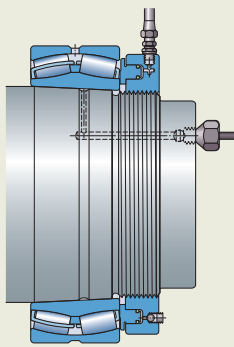
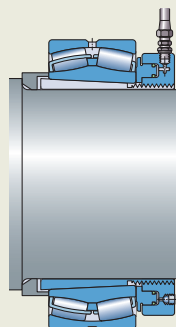

Fig. 33
Fig. 34
- on an adapter sleeve (fig. 33)
- on a withdrawal sleeve (fig. 34)
The hydraulic nut can be positioned onto a threaded section of the shaft (fig. 32), or onto the thread of a sleeve (fig. 33 and fig. 34). The annular piston abuts the inner ring of the bearing (fig. 32 and fig. 33) or a stop on the shaft, which can be either a nut on a shaft thread (fig. 34) or a plate attached to the end of the shaft. Pumping oil into the hydraulic nut displaces the piston axially with the force needed to drive the inner ring up the taper for accurate and safe mounting.